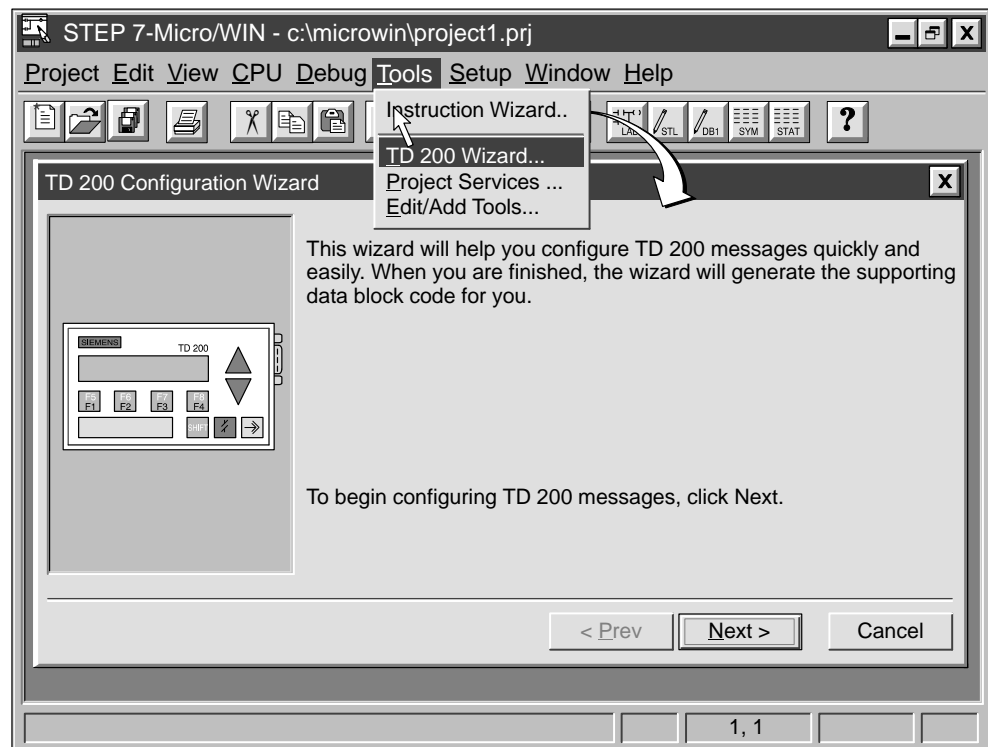

Figure 5-3 Accessing the TD 200 Configuration Wizard
1. Select the menu command **Tools ► TD 200 Wizard...** as shown in Figure 5-3.